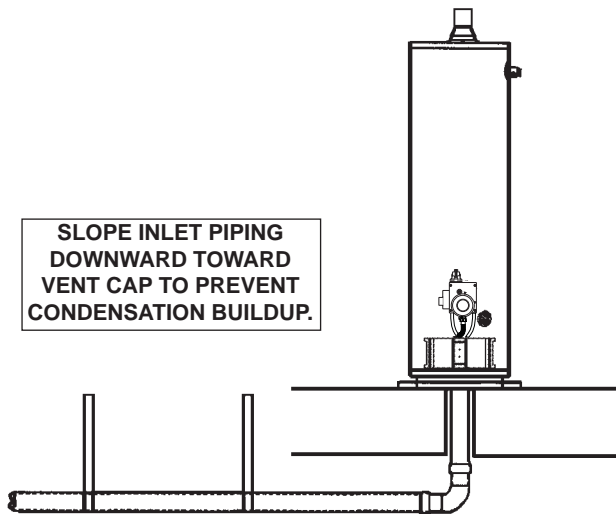

FIGURE 20.
5. Vertical and horizontal runs must be securely supported at 3-1/2 foot (1.06 m) intervals. See Figure 20.